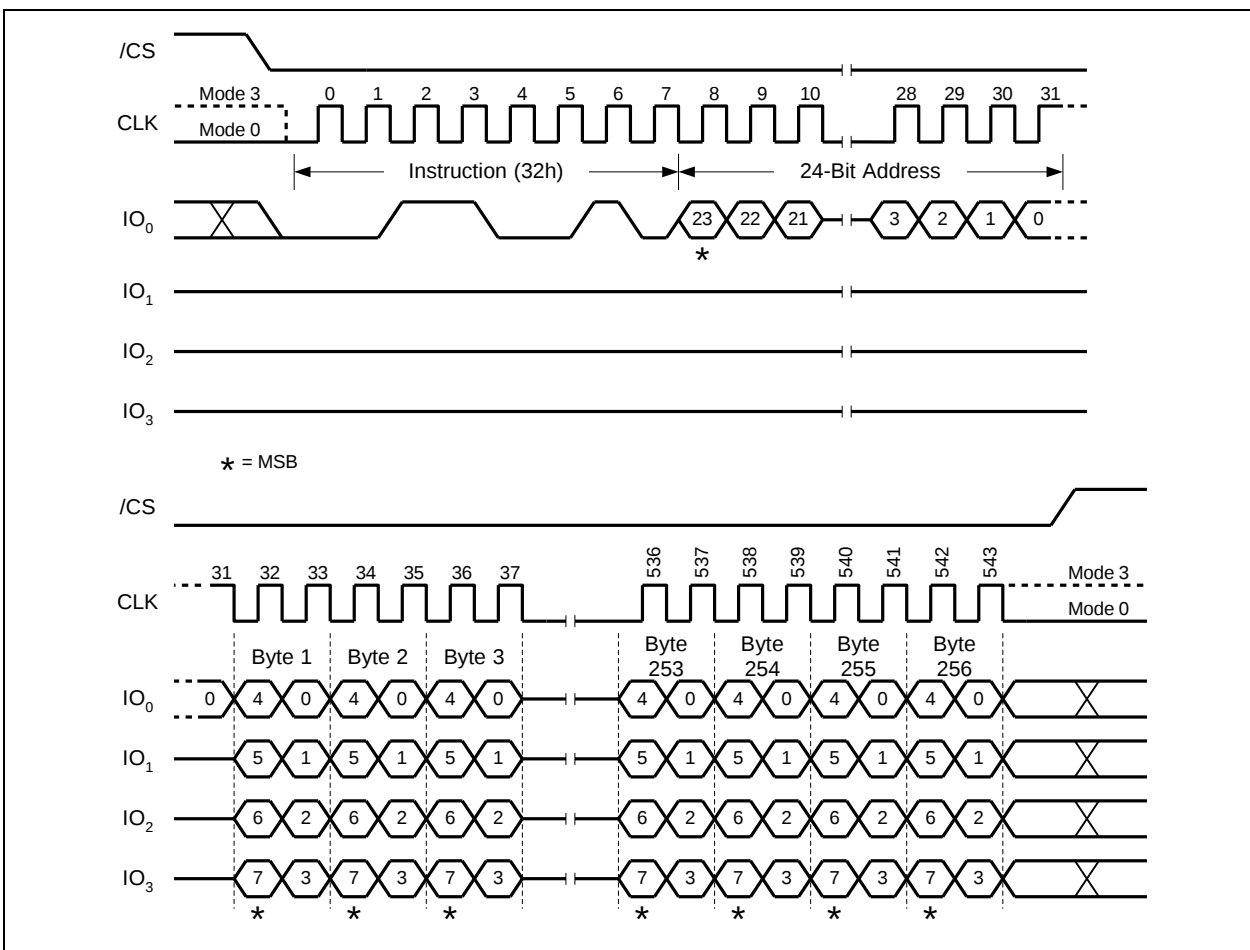

Figure 29. Quad Input Page Program Instruction
To use Quad Page Program the Quad Enable (QE) bit in Status Register-2 must be set to 1. A Write Enable instruction must be executed before the device will accept the Quad Page Program instruction (Status Register-1, WEL=1). The instruction is initiated by driving the /CS pin low then shifting the instruction code "32h" followed by a 24/32-bit address (A23/A31-A0) and at least one data byte, into the IO pins. The /CS pin must be held low for the entire length of the instruction while data is being sent to the device. All other functions of Quad Page Program are identical to standard Page Program. The Quad Page Program instruction sequence is shown in Figure 29.